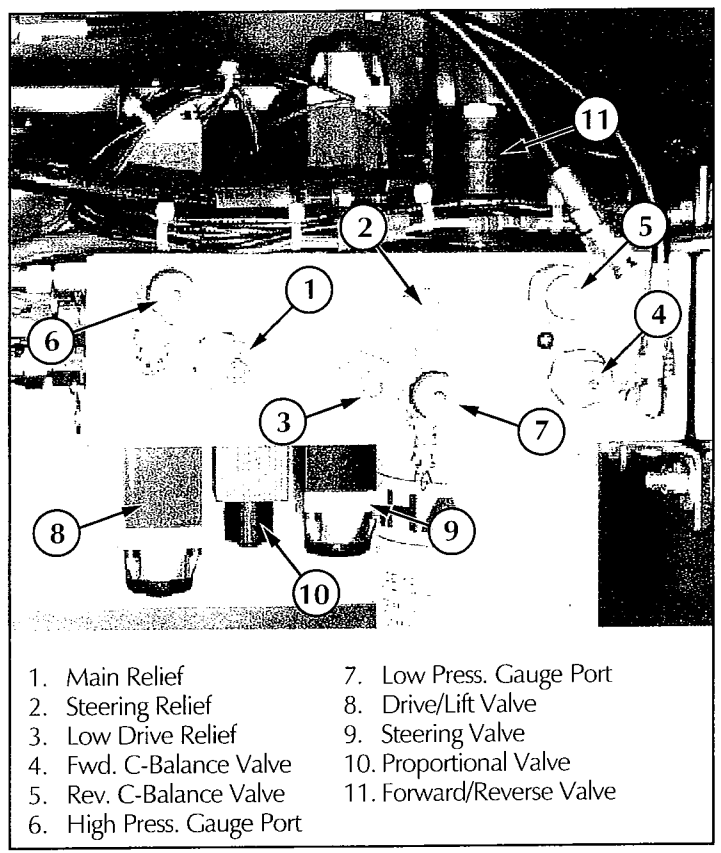

Figure 4-5: Hydraulic Manifold, for Machines with Serial Numbers 1004-1599
4.5 Setting Hydraulic Pressures (Figure 4-5 & 4-6)